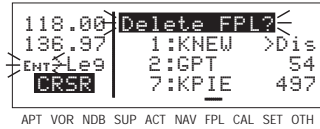

Figure 4-117
3. Press **CLR**. The words **Delete FPL?** will appear at the top of the page (figure 4-117). If a mistake was made and you do not wish to clear this flight plan, press **CLR** again.